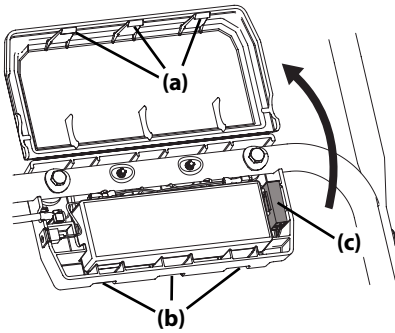

Figure 6-9
1. Release the three locking tabs (a) from the slots (b) and open the battery box. See Figure 6-9.